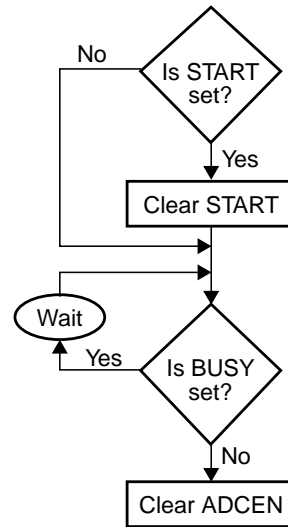

Figure 16-3. Disabling ADC Sequence
See Figure 16-3 for the correct sequence for disabling it. First make sure that the START bit of the ADCCNT2 Register is cleared. Then check the BUSY bit of the ADCST Register; if set, wait until it is cleared by the hardware before disabling the ADC.
- 0: When the software clears this bit, the ADC is disabled and the current conversion operation is terminated. The status flags EOC, BUSY and OVF in the ADCST Register and START of the ADCCNT2 Register are cleared. However, it is recommended to disable the ADC only when it is in Idle mode (not converting, START and BUSY are both 0). See Figure 16-3.